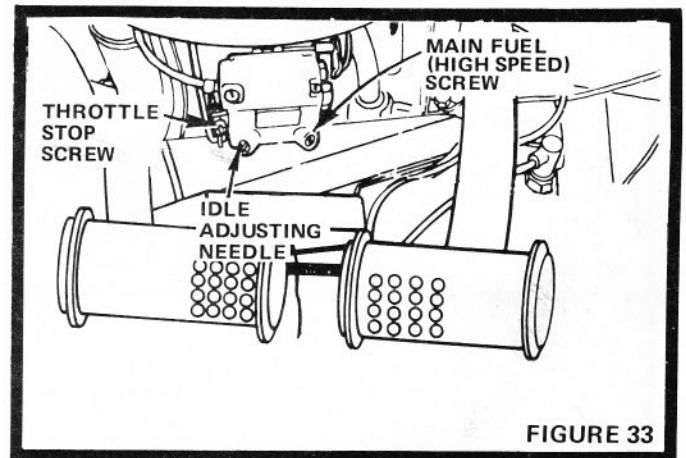

FIGURE 33
- Main Fuel (High Speed) Screw (Fig. 33) should not require adjustment. If resetting is necessary, turn clockwise, closing finger tight ONLY, then turn counterclockwise 1- 1/4 turn.
- Turn Idle Adjusting Needle (Fig. 33) clockwise, closing finger tight ONLY, and then turn counterclockwise one turn.
- Throttle Stop Screw (Fig. 33) should not require adjustment. If resetting is necessary, set to obtain the slowest engine speed that will allow smooth acceleration.